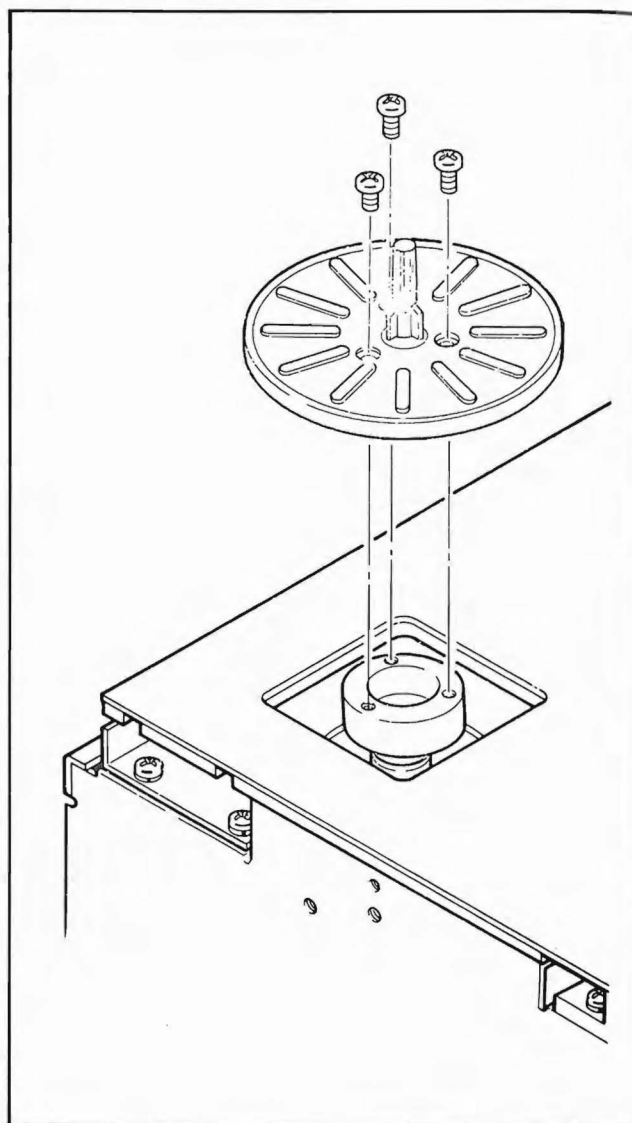

Figure 5-26. Reel Table Removal
1. Refer to Figure 5-26 and remove three screws from the front of the reel table. Pull off reel table.